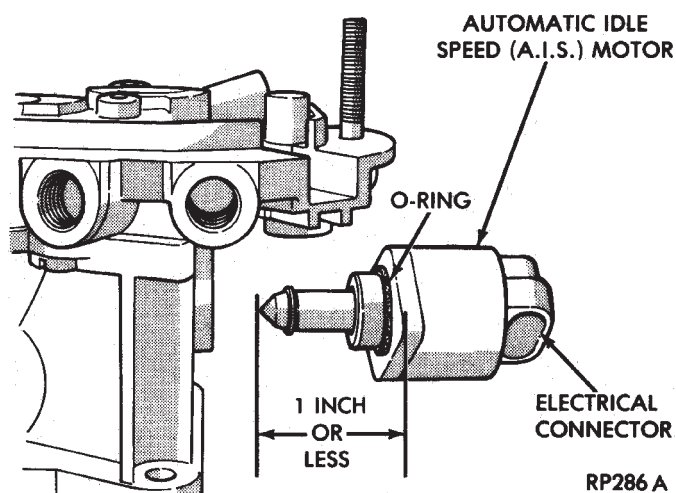

Fig. 14 Servicing Automatic Idle Speed (AIS) Motor
The automatic idle speed (AIS) motor is mounted on the throttle body (Fig. 14).
(1) Remove air cleaner.
(2) Disconnect negative cable from battery.
(3) Disconnect AIS motor connector.
(4) Remove AIS motor mounting screws (Torx head screws, 25 mm long).
(5) Remove AIS motor from throttle body housing. Ensure O-ring is with AIS (Fig. 14).
(1) Ensure that AIS motor pintle is in the retracted position. **If pintle measures more than 1 inch (25 mm) as shown in Fig. 14, it must be retracted.** Use